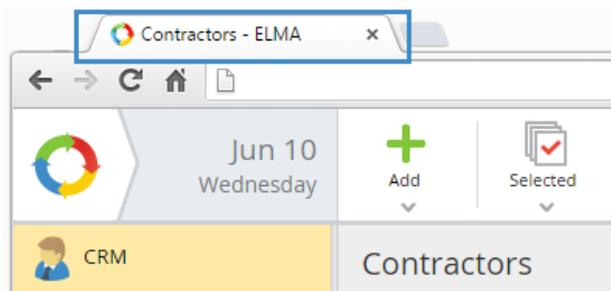

Fig. 34. Default page title
E.g., Replace {Title} - ELMA with {Title} – Company. You will see the following: Fig. 34.